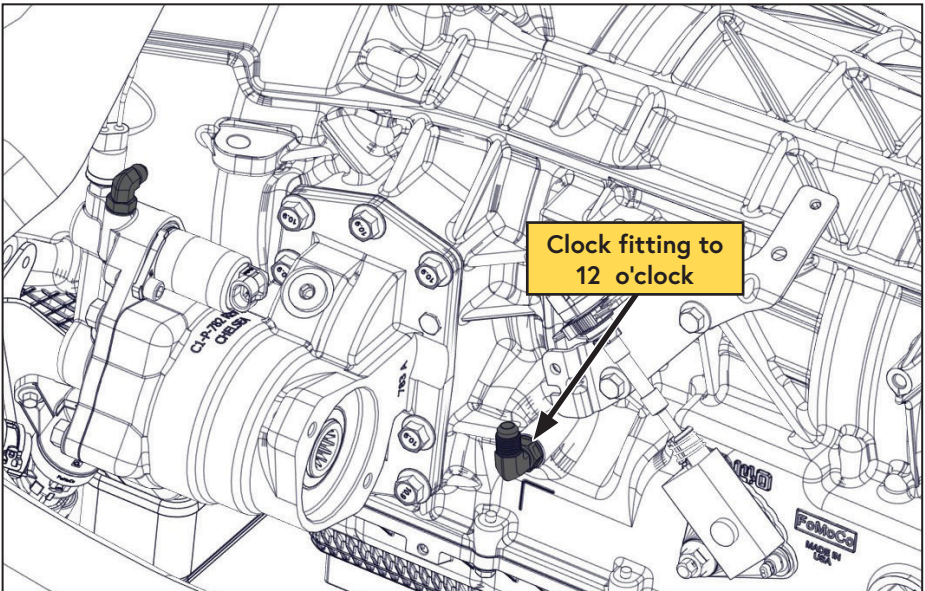

Figure 15 — Install the compressor
- ☐ Clock the hydraulic fitting on the transmission pressure port to 12 o'clock (Figure 15).
- ☐ Route the hydraulic feed line from the fitting, over top of the PTO, and connect it to the corresponding fitting on the top of the PTO (Figure 15).